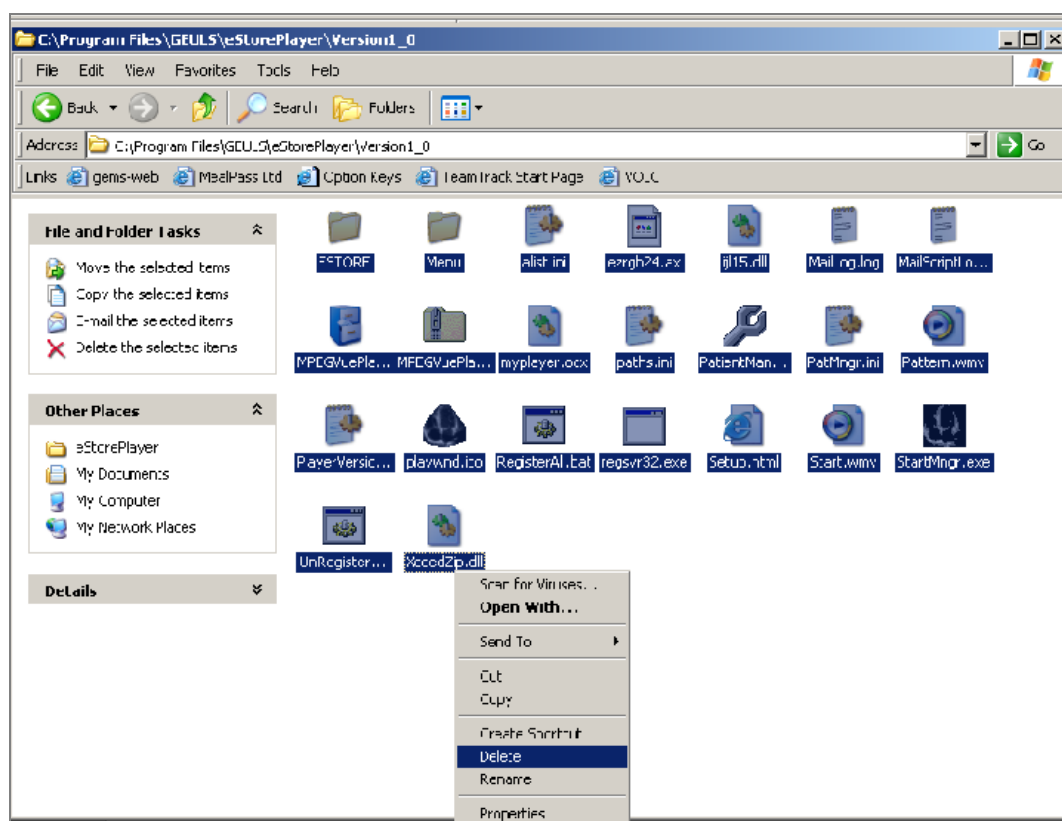

Figure 3-167 Deleting All Files
- 5.) From the **C:\Program Files\GEULS\eStorePlayer\Version1_0** folder, delete all files, as shown in Figure 3-167 on page 3-159.